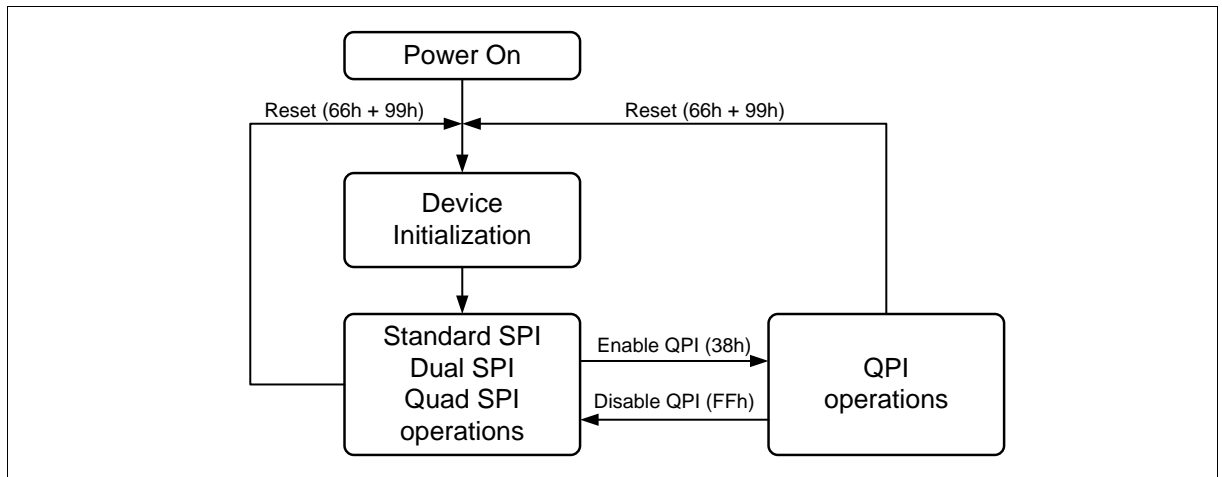

Figure 2 FM25Q08A Serial Flash Memory Operation Diagram
The FM25Q08A supports Quad Peripheral Interface (QPI) operations only when the device is switched from Standard/Dual/Quad SPI mode to QPI mode using the “Enable QPI (38h)” instruction. The typical SPI protocol requires that the byte-long instruction code being shifted into the device only via DI pin in eight serial clocks. The QPI mode utilizes all four DQ pins to input the instruction code, thus only two serial clocks are required. This can significantly reduce the SPI instruction overhead and improve system performance in an XIP environment. Standard/Dual/Quad SPI mode and QPI mode are exclusive. Only one mode can be active at any given time. “Enable QPI (38h)” and “Disable QPI (FFh)” instructions are used to switch between these two modes. Upon power-up or after a software reset using “Reset (99h)” instruction, the default state of the device is Standard/Dual/Quad SPI mode. To enable QPI mode, the non-volatile Quad Enable bit (QE) in Status Register-2 is required to be set. When using QPI instructions, the DI and DO pins become bidirectional DQ_0 and DQ_1 , and the WP# and HOLD# pins become DQ_2 and DQ_3 respectively. See Figure 2 for the device operation modes.